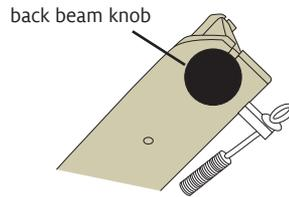

FIGURE 7: BACK BEAM
20. The back beam can be removed for better access to the heddles when you thread the loom. Loosen the back beam knobs on each side of the back beam and lift the beam out (Figure 7). To replace the back beam, slide it back into the legs and tighten the knobs.